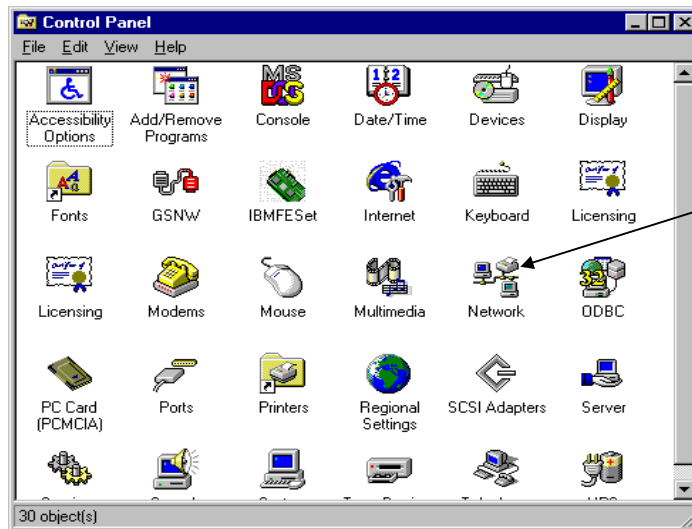

Figure 6-3. Invoking Network Configuration
1. From the Windows NT Control Panel invoke Network configuration (Figure 6-3).